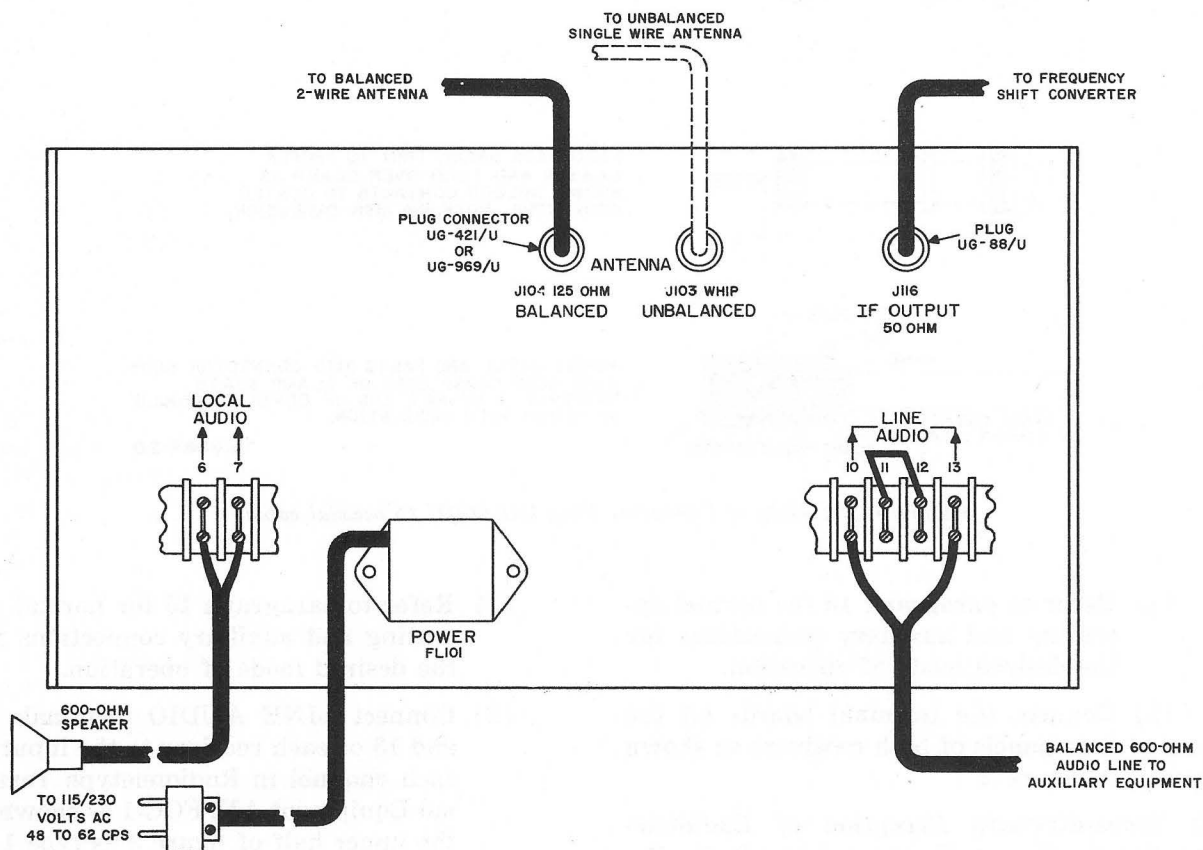

Figure 8. Radio Receiver R-390A/URR, cording diagram.
c. Audio Output (fig. 8).
- (1) A 600-ohm headset or speaker may be connected as indicated below: